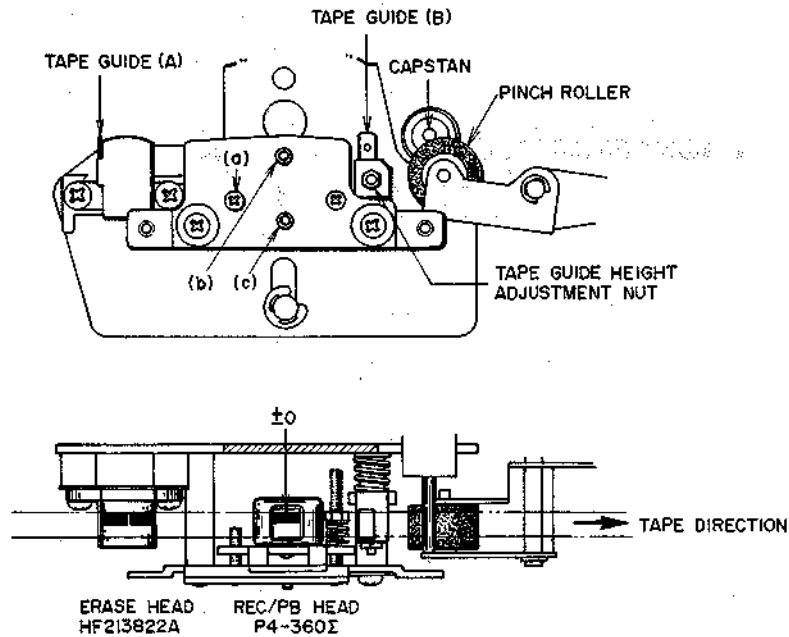

Fig. 15 Head Adjustment
(Refer to Figs. 15, 16)
- 2) At playback mode, using the Tape guide (A) shown in Fig. 15 as standard for height, adjust tape guide (B) height with tape guide height adjustment nut so that the tape runs smoothly and does not catch on the tape guides.
- 2) As shown in Fig. 15, adjust head height with screws (a), (b) and (c) until the upper edge of the tape is the same height as the upper edge of the left channel REC/PB head core.
(Refer to Fig. 15)
- 1) Playback a 10 kHz pre-recorded cassette azimuth alignment test tape and adjust screw (a) shown in Fig. 15 to obtain maximum output on both channels.